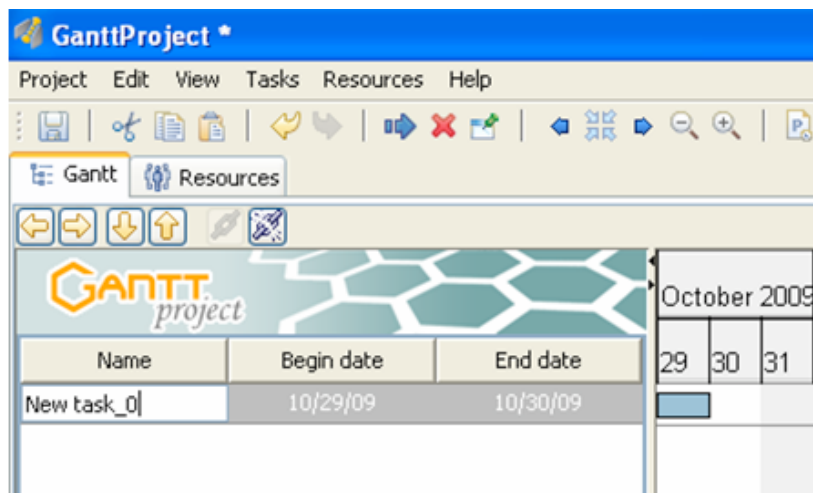

Figure 4.13: The task pane with the name column selected.
3. In the Tasks pane, notice that the text in the Name column is selected, enabling you to name the task as illustrated in figure 4.13.